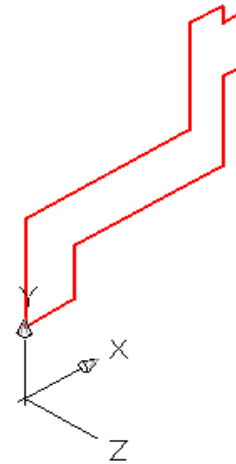

Figure Step 5
Step 5 On layer Model and using the dimensions shown in the multiview drawing, draw the right side cross section of the solid part of the object as shown in Figure Step 5.